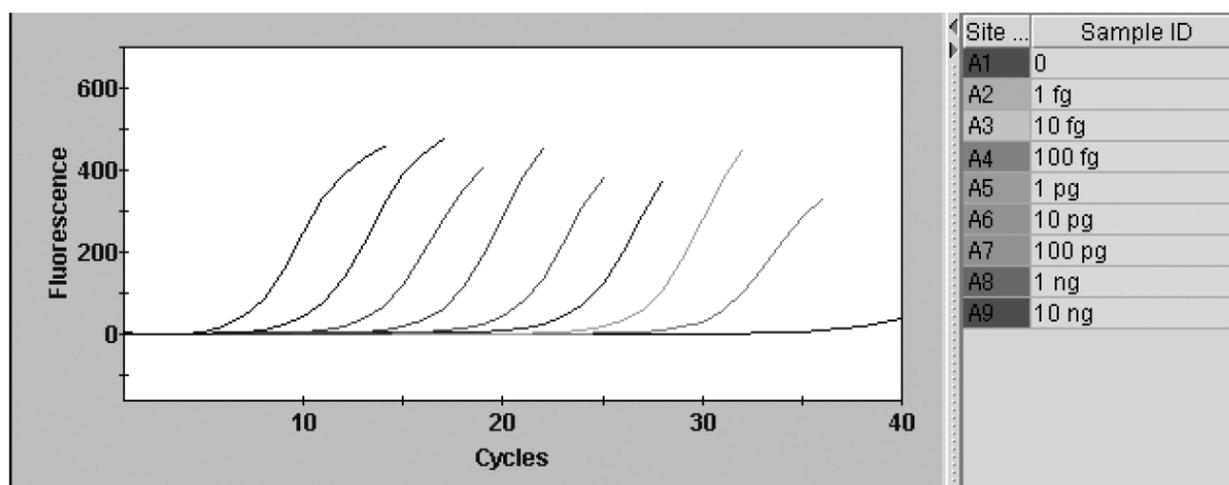

Figure 3. Amplification curves for the λ DNA PCR product.
3. The amplification of PCR product was monitored in real time, as shown in the amplification and melting curves below (Figures 3 & 4).